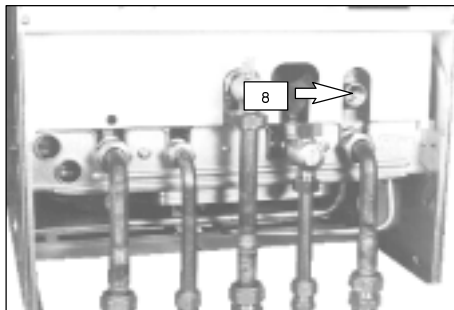

fig. 3.4
- 5 Connect the pressure relief valve's outlet to a drain (8 in fig. 3.4) .